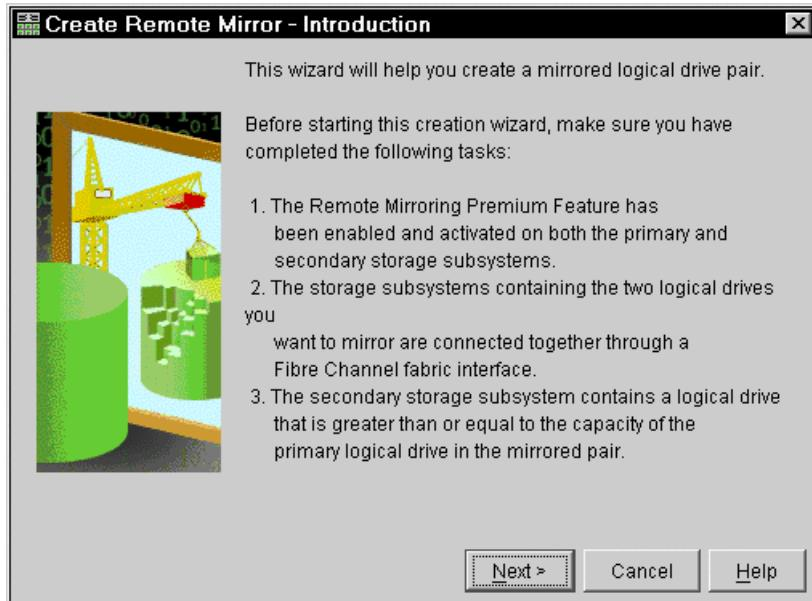

Figure 6-18 Create Remote Mirror - Introduction window
2. The introduction window (Figure 6-18) of the Create Remote Mirror wizard appears. Review the information and click **Next** to continue.